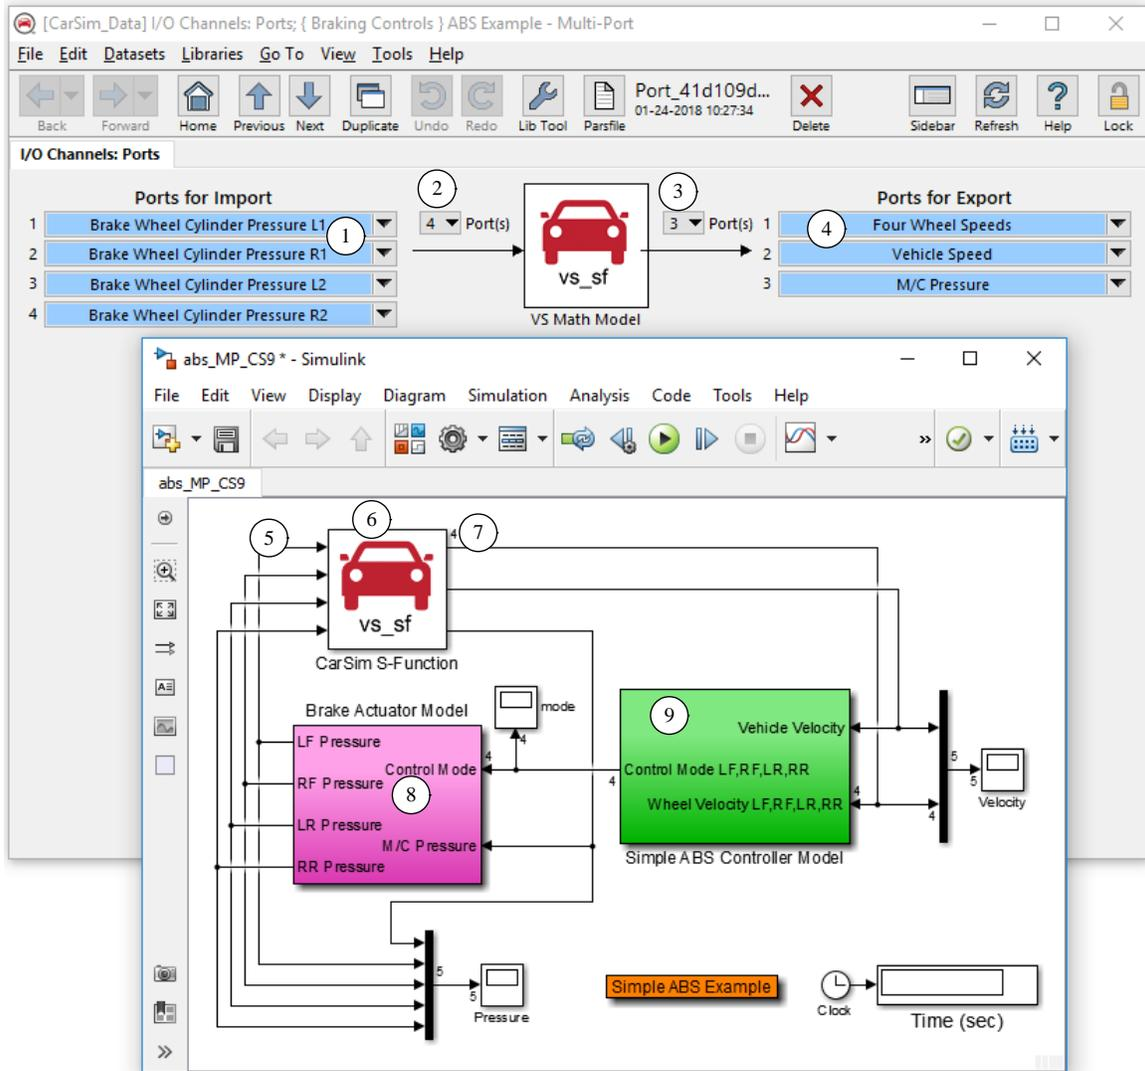
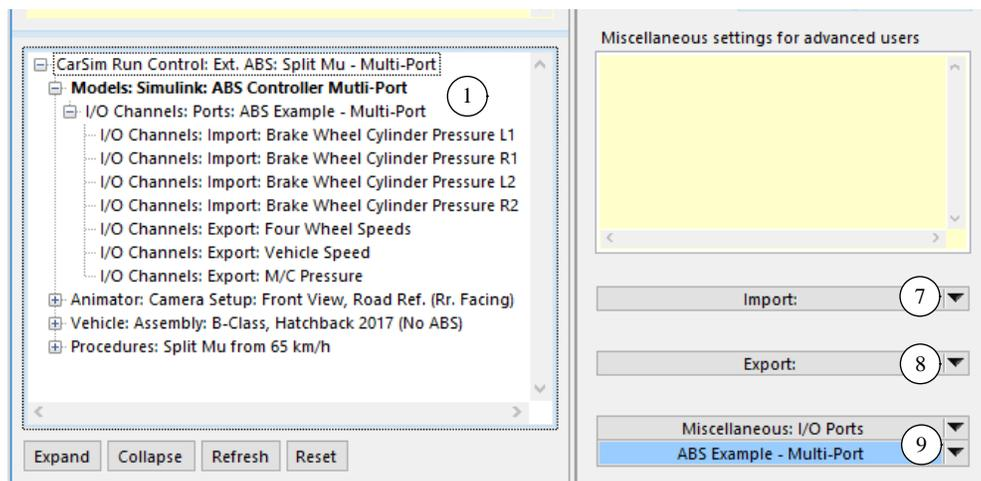

Figure 40. Alternate version of the ABS Model using multiple ports.
Figure 41. Models: Simulink dataset for multiport version of ABS example.
The VS S-Function supports Simulink models with multiple Import and Export ports. The database for your VehicleSim product includes a multiport version of the ABS example, such as the CarSim example shown in Figure 40.
The setup for this model from the VS Browser is almost the same as shown earlier. Figure 41 shows the lower-left part of the **Models: Simulink** dataset, with the sidebar visible in order to see the linked datasets (1). In this case, the blue links for Import (7) and Export (8) channels are not used, and a link is made to an **I/O Channels: Ports** dataset (9). The **I/O Channels: Ports** dataset is shown in the background of Figure 40.
The **I/O Channels: Ports** screen shows drop-down controls that specify four import ports (2) (Figure 40) and three export ports (3). Each Import port is represented with an Import dataset (1) and each Export port is represented with an Export dataset (4). The number of ports can be set to anything between 0 and 20. The Import and Export datasets are made from the same libraries shown for single-port models, in the previous section.